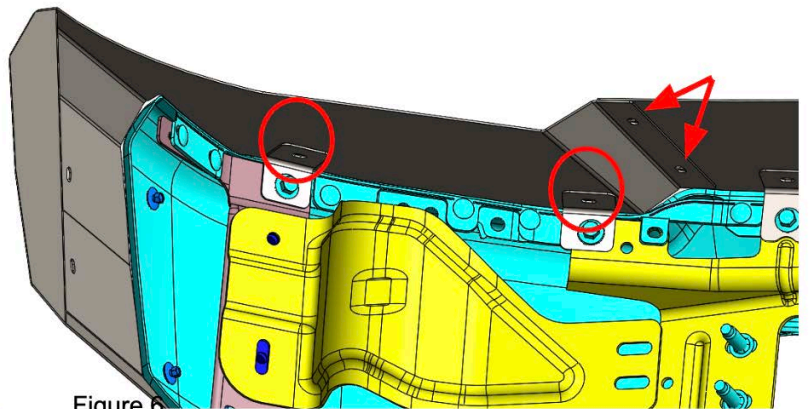

Figure 6.
8. Install DS wing section of skirt kit (23190) using four (4) ¼” bolts, washers and nylock washers, one (1) in each “L-Bracket” and two (2) into center section. (Figure 6) Repeat on passenger side.